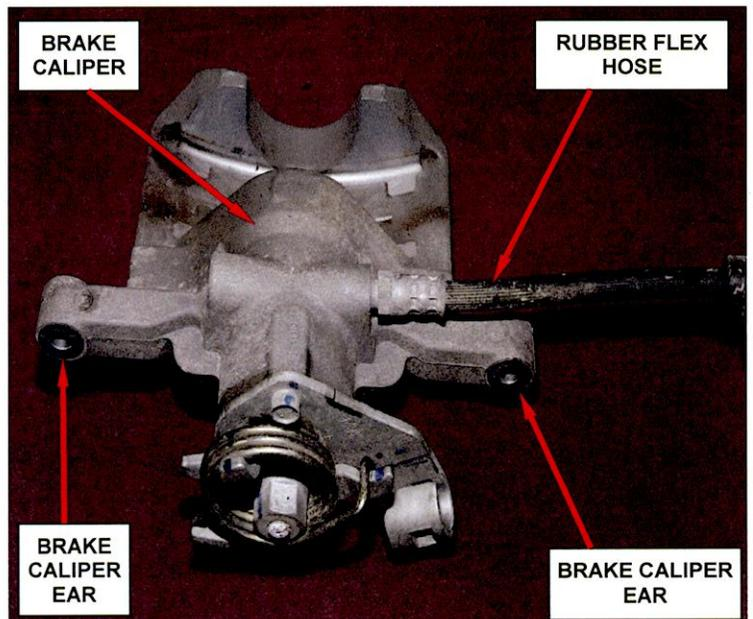

Figure 17 – Rubber Flex Hose at Brake Caliper
8. Transfer the rubber flex hose from the old brake caliper to the new brake caliper (Figure 17).